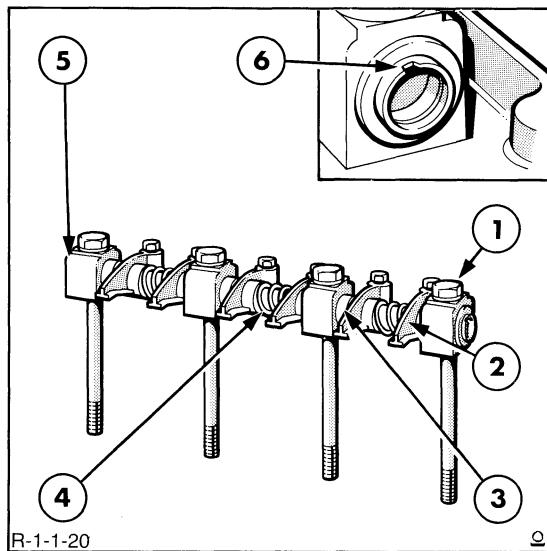

Figure 20
3. The rocker shaft has an identification groove at one end of the shaft. Position the mark upwards, Figure 20, and use this end as the front of the shaft, thereby ensuring the oil holes and grooves in the shaft face downwards.
5. Ensure the springs and spacers are in their correct position, as shown in Figure 20, then proceed with the assembly. Place a long cylinder head retaining bolt in the last (front) support to keep the complete assembly together.